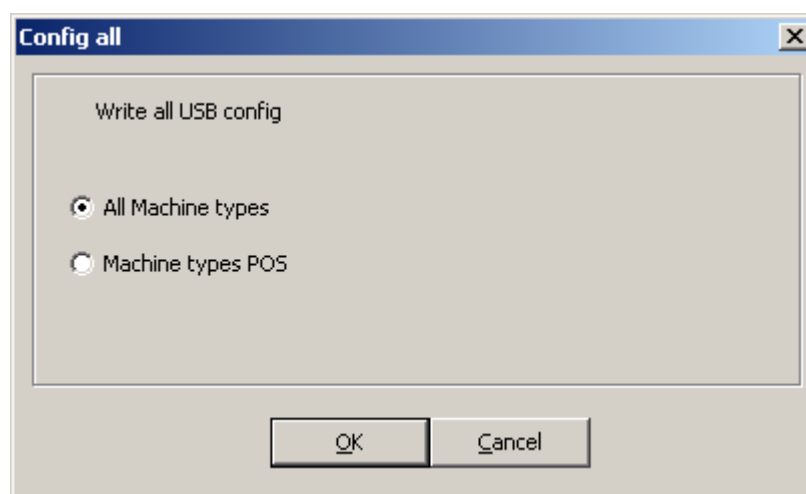

Figure 4-20
5. Click **USB**. You will see a dialog screen as in Figure 4-20.